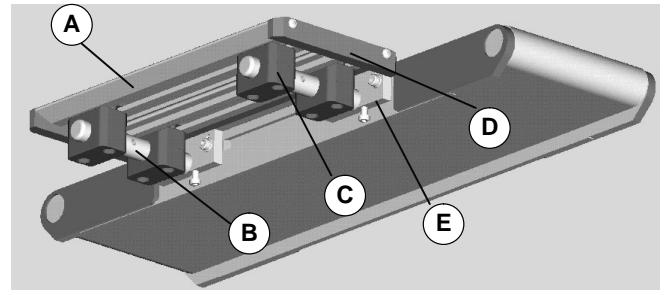

Figure 1
- 6" (152mm) Side Table on 2200 Series conveyor (Figure 1)